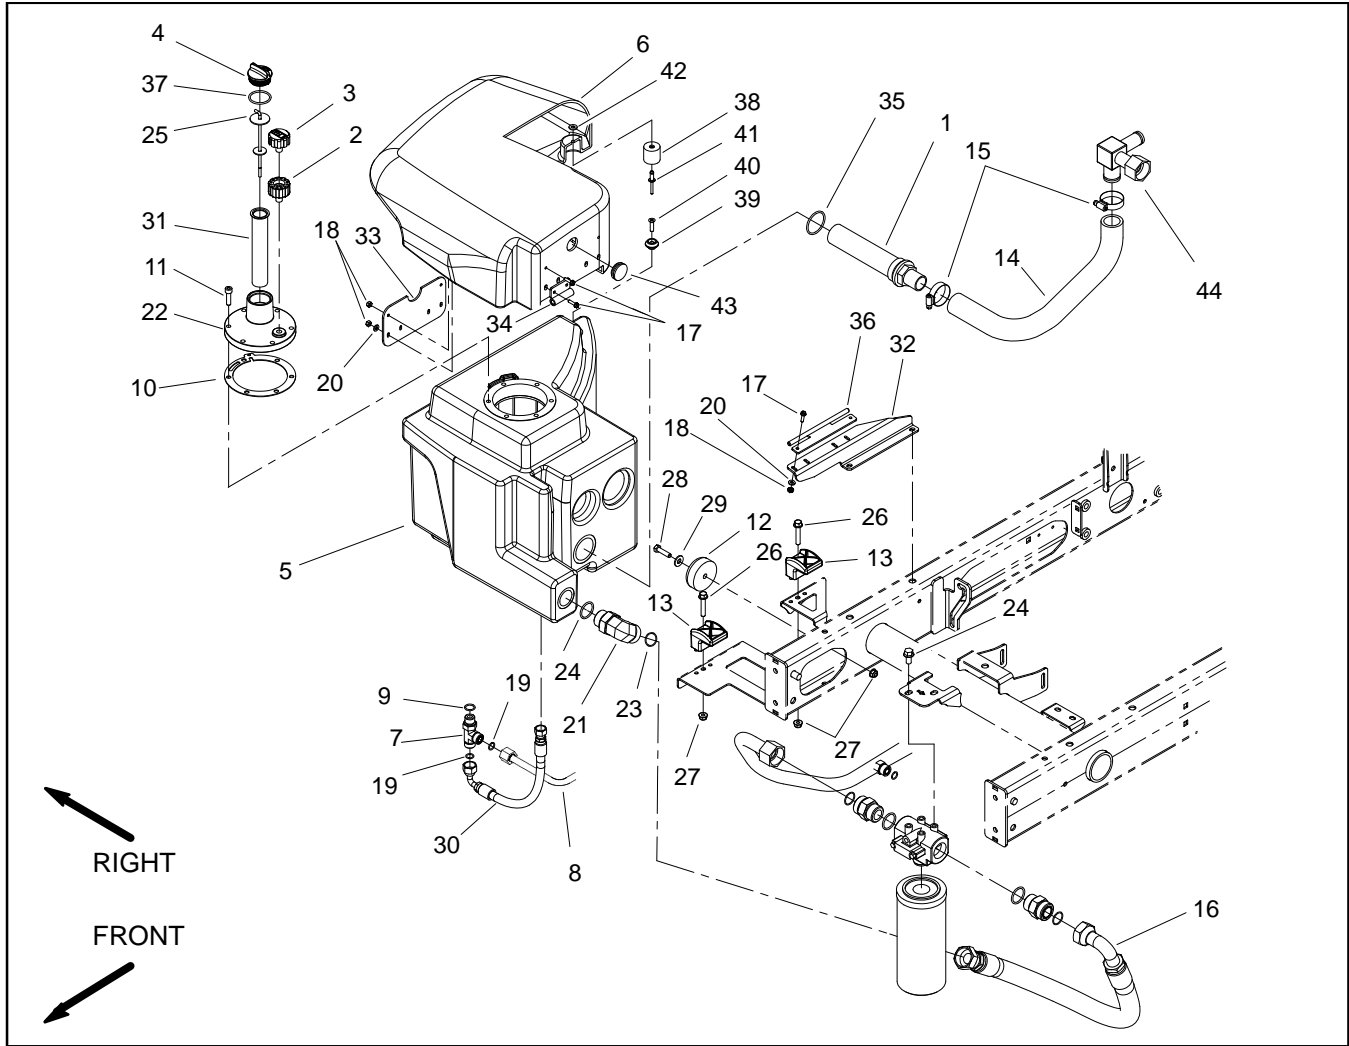

Figure 57
Removal (Fig. 57)
5. Remove hydraulic reservoir using Figure 57 as a guide.
Inspection (Fig. 57)
Installation (Fig. 57)